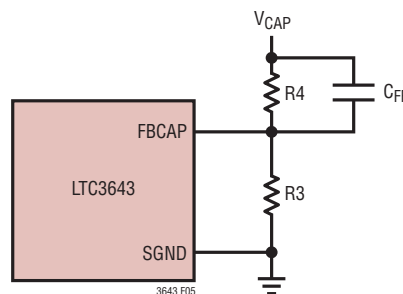

Figure 5. Setting The  $V_{CAP}$  Voltage In Step-Up Mode
**FBCAP (Pin 9):** Feedback Input to the Error Amplifier of the Cap Voltage Regulation Loop. Connect a resistor divider tap to this pin. The CAP voltage can be adjusted such that  $V_{CAP} = 0.6V (1 + R4/R3)$  (See Figure 5).